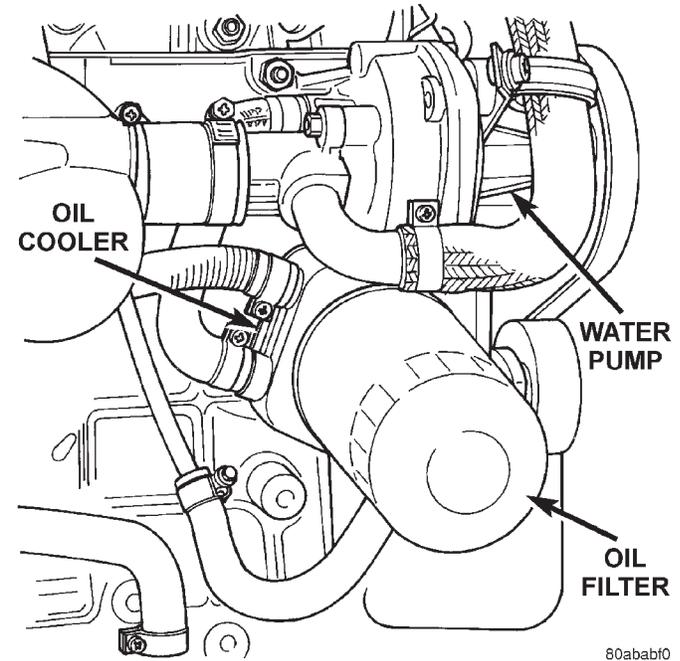

Fig. 6 Oil Filter
- (1) Position a drain pan under the oil filter.
- (2) Using a suitable oil filter wrench loosen filter.
- (3) Rotate the oil filter counterclockwise to remove it from the oil filter base (Fig. 6).